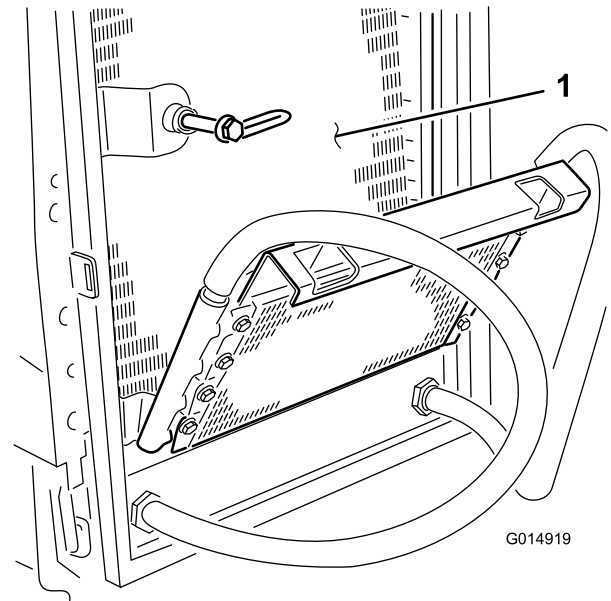

Figure 43
8. Thoroughly clean both sides of the oil cooler. After the radiator and oil coolers are thoroughly cleaned, clean out any debris that may have collected on other parts of the machine (Figure 43) with compressed air.